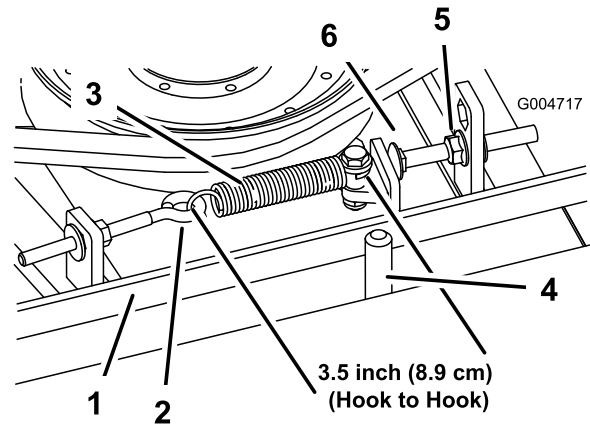

Figure 94
When properly tensioned, the inside measurement of the extension spring (hook to hook) should be approximately 8.3 to 9.5 cm (3-1/4 to 3-3/4 inches). Once the correct spring tension is attained, adjust the stop bolt (carriage bolt) until there is approximately 2 to 5 mm (0.065 to 0.185 inch) clearance between the head of the bolt and the idler arm (Figure 94).
Note: Ensure that the belt is positioned on the spring side of the belt guide (Figure 94).
2. Loosen the eye bolt allowing the removal of the extension spring (Figure 94).
3. Loosen the flange nut securing the stop bolt to the mounting tab and move the idler pulley away from the belt to release the belt tension (Figure 94).
9. Connect the extension spring (Figure 94) to the eye bolt and tension the belt as follows: